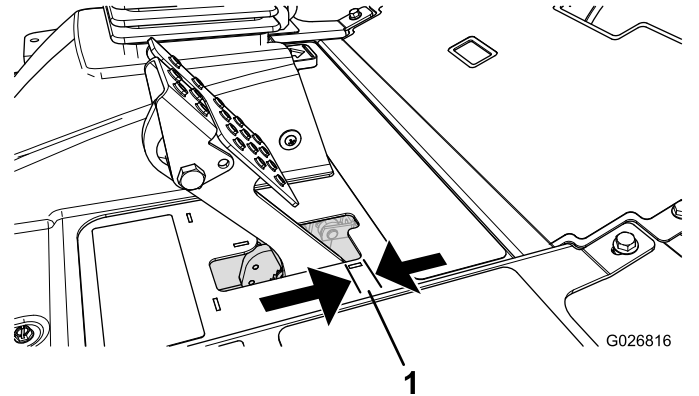

Figure 68
Adjust the brakes when there is more than 25 cm (1 inch) of free travel (Figure 68) of the brake pedal, or when more holding force is required. Free travel is the distance that the brake pedal moves before you feel braking resistance.
2. Tighten the rear nut to move the cable backward until brake pedals have 6.3 to 12.7 mm (1/4 to 1/2 inch) of free travel (Figure 68), before the wheel locks up.